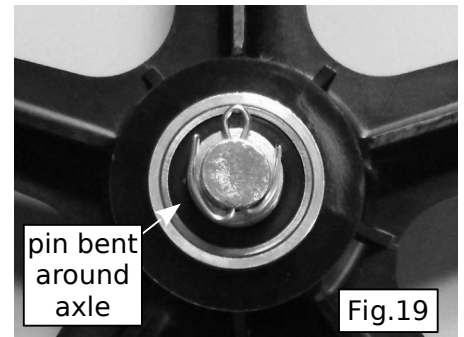

Fig.19
12. Place a wheel spacer over each end of the axle and insert a pin through the hole to hold it in place as shown in Fig.18. Bend the ends of the pin around the axle with a pair of pliers as shown in Fig.19.